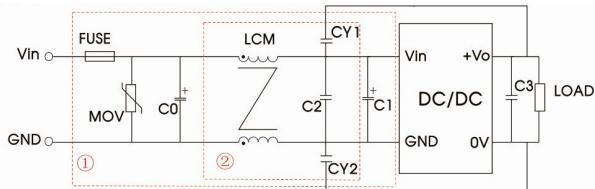

Fig. 6
Notes: We use Part ① in Fig. 6 for immunity and part ② for emissions test.